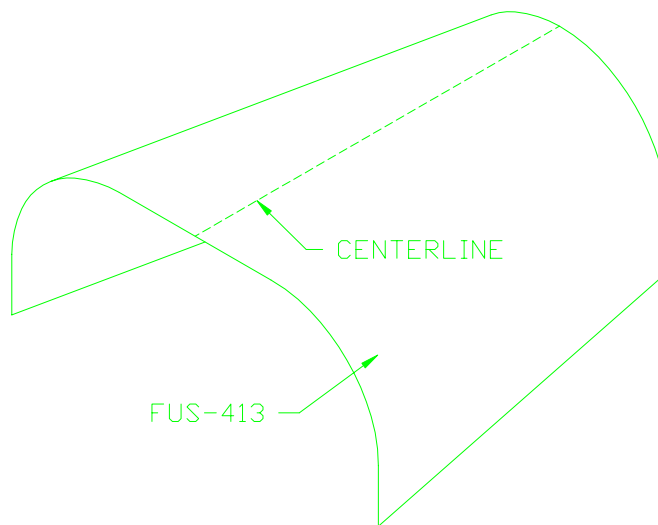

FIGURE 9
- 49) Draw a center line down the back of a FUS-413 rear fuselage wrap. Figure 9